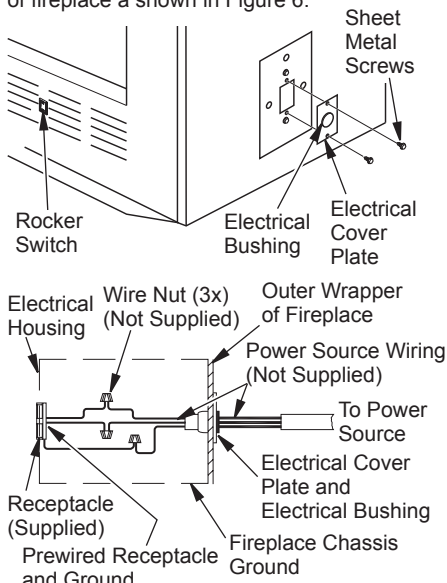

Figure 6 - Fan Switch-Electrical Bushing
Fan or blower kit is optional with this fireplace (for circulating models only). Use of blowers or fans other than those manufactured by DESA Heating, LLC voids warranty. Fan is operated by pressing rocker switch (see Figure 6) in lower right hand corner of fireplace face. Blower is operated by turning control knob (not shown).
Fan/blower kit electrical connections are made through electrical cover plate on side of fireplace a shown in Figure 6.
1. Remove electrical cover plate with bushing from fireplace by removing 2 sheet metal screws as shown in Figure 6.
3. Slide all wiring connections in electrical housing as shown in Figure 6.